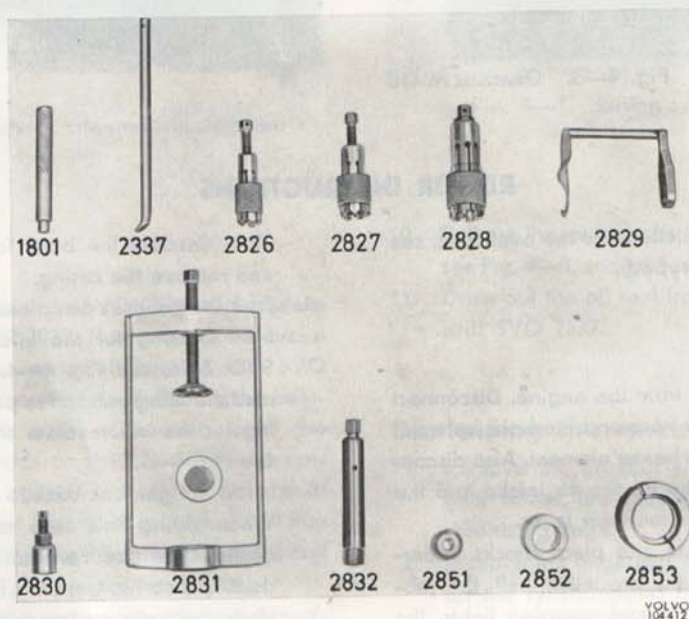

Fig. 4—1. Special tools
- SVO 2520 Stand, see Fig. 4—2. Used together with fixture SVO 2825.